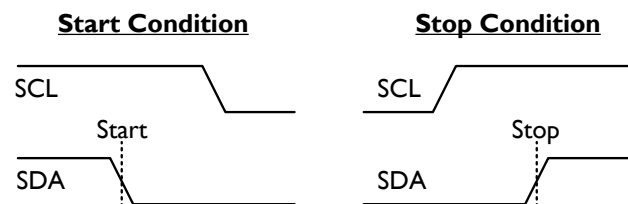

Fig. 8:  $I^2C$  bus start and stop conditions.
Each transmission is initiated when the master sends a '0' start bit (S), and the transmission is terminated when the master sends a '1' stop bit (P). **These bits are exclusively transmitted while the SCL line is high.** The waveforms corresponding to these conditions are illustrated in Fig. 8.
Once the start condition has been set, the SCL line is toggled at the prescribed data-rate, clocking subsequent data transfers. Data on the SDA line is always sampled on the rising edge of the SCL line and must remain stable while SCL is high to prevent false Start or Stop conditions (see Fig. 8).